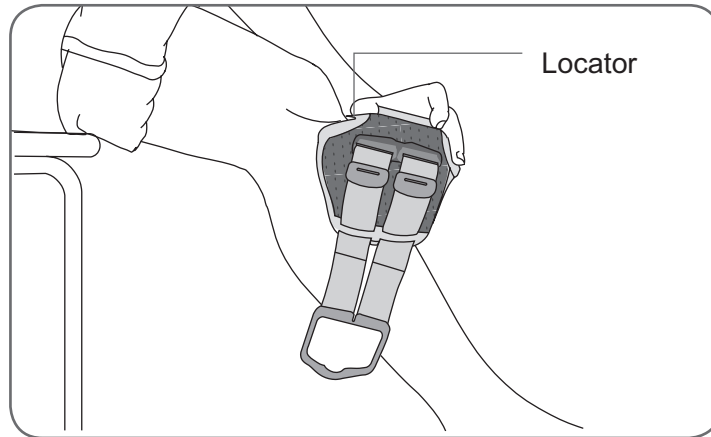

Figure 7-2: Aligning the L300 FS Cuff locator below the kneecap.
5. Slide the locator up your leg until it rests snugly and comfortably below your kneecap. See Figure 7-2.